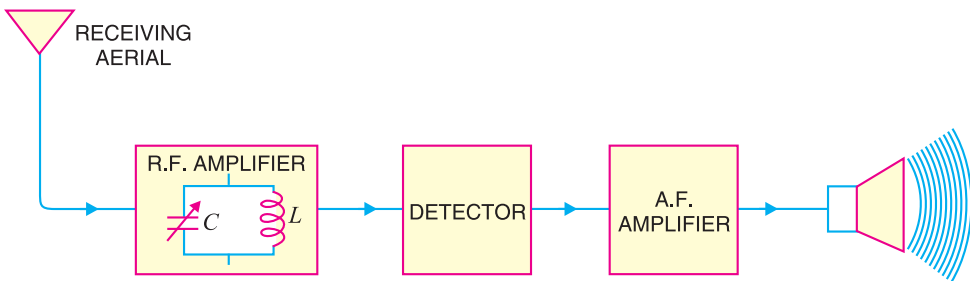

Fig. 16.18
1. Straight radio receiver. Fig. 16.18 shows the block diagram of a straight radio receiver. The aerial is receiving radio waves from different broadcasting stations. The desired radio wave is selected by the R.F. amplifier which employs a tuned parallel circuit. The selected radio wave is amplified by the tuned r.f. amplifiers. The amplified radio wave is fed to the detector circuit. This circuit extracts the audio signal from the radio wave. The output of the detector is the audio signal which is amplified by one or more stages of audio-amplification. The amplified audio signal is fed to the speaker for sound reproduction.